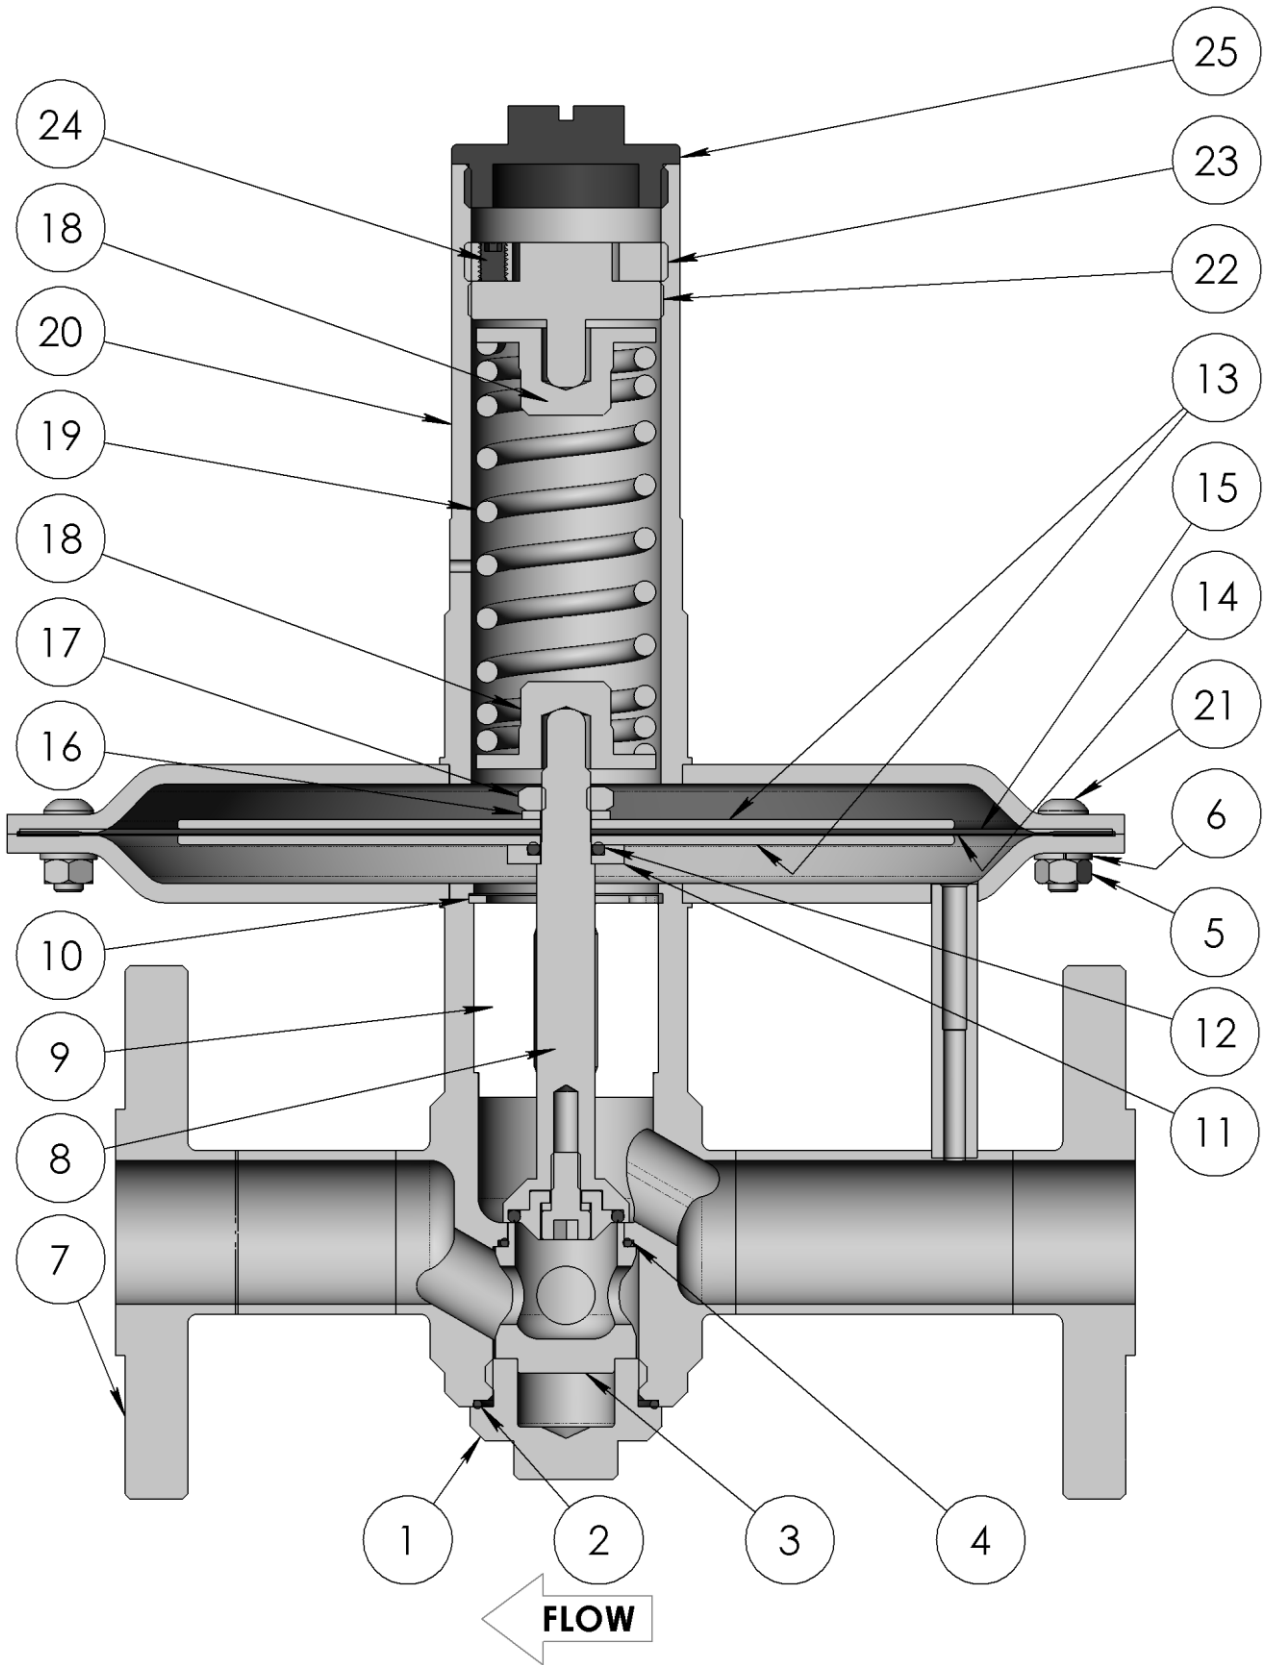

Fig 2
1. Secure the body assembly (7) in a vise.
2. Place the seat O-ring (4) onto the seat (3), then insert them both into the body assembly (7).
3. Fit the body plug O-ring (2) into the body assembly (7).
4. Lightly lubricate the body plug threads (1) then thread it into the body assembly (7). Torque to 30 lbf·ft (40 N·m).
5. Insert the stem (8) into the guide ring (9).
6. Insert the guide ring (9) into the body and retain it with the retaining ring (10).
7. Fit the seal housing (11), seal housing O-ring (12), first diaphragm plate (13), diaphragm (14), diaphragm support (15), and second diaphragm plate (13) onto the stem (8) per Fig 2.
8. Lightly lubricate the stem thread (8) then fit the lock washer (16) and diaphragm nut (17) onto it. Torque the nut to 7 lbf·ft (10 N·m).
9. Place one of the spring guides (18) and the set spring (19) onto the poppet stem (8).
10. Lubricate the recess of the remaining spring guide (18) then place this into the set spring (19).
11. Cover the spring with the spring housing (20).
12. Lightly lubricate the cap screws (21). Secure the spring housing (20) to the body (7) using the cap screws (21), washers (6), and nuts (5). Torque to 7 lbf·ft (10 N·m).
13. Lubricate the adjusting screw thread (22) and install into the top of the spring housing (20).
14. Fit the cover (25) into the top of the spring housing (20).